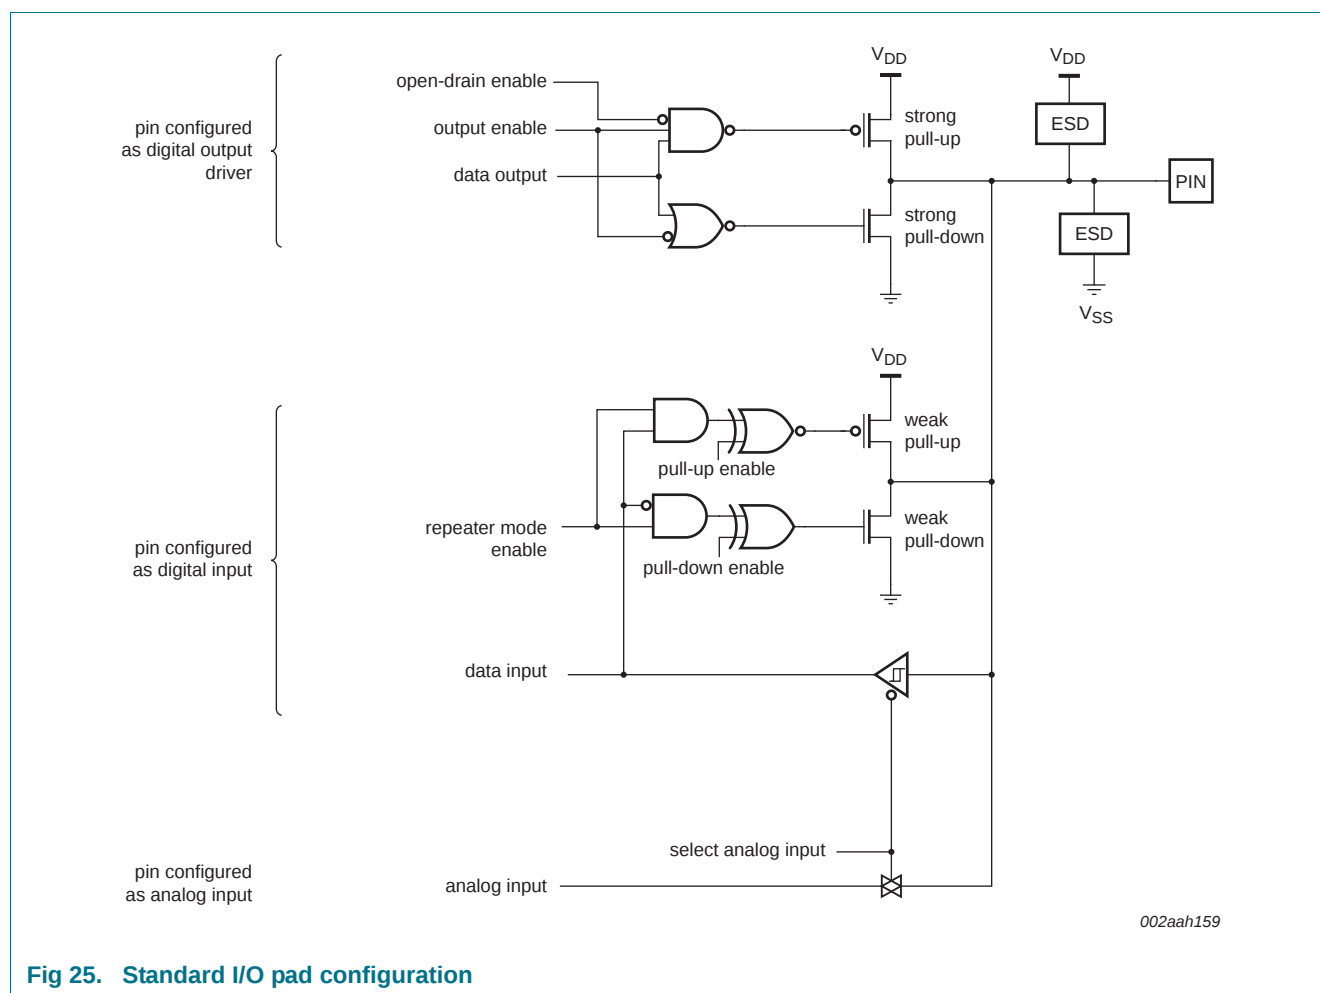

Fig 25. Standard I/O pad configuration
Figure 25 shows the possible pin modes for standard I/O pins with analog input function:
• Figure 3 updated. • Internal oscillator description updated (Section 7.2.5). • Description of the $V_{SS(LCD)}$ pin updated in Table 3. • Data sheet status changed to Product data sheet. • Remove table note "The peak current is limited to 25 times the corresponding maximum current" in Table 5. • For parameters I_{OL}, V_{OL}, I_{OH}, V_{OH}, changed conditions to $1.8\text{ V} \leq V_{DD} < 2.5\text{ V}$ and $2.5\text{ V} \leq V_{DD} \leq 3.6\text{ V}$ in Table 6. • Figure 25 updated for parts with configurable open-drain mode. • WDOSc frequency range corrected.